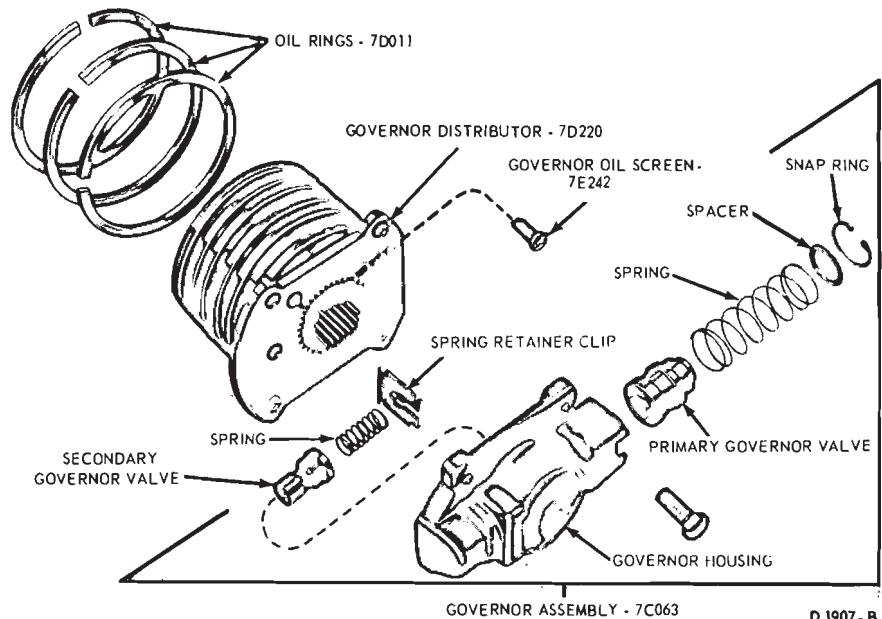

FIG. 93—Governor and Oil Distributor—C4 Automatic
1. Remove the oil rings from the governor oil distributor (Fig. 93).